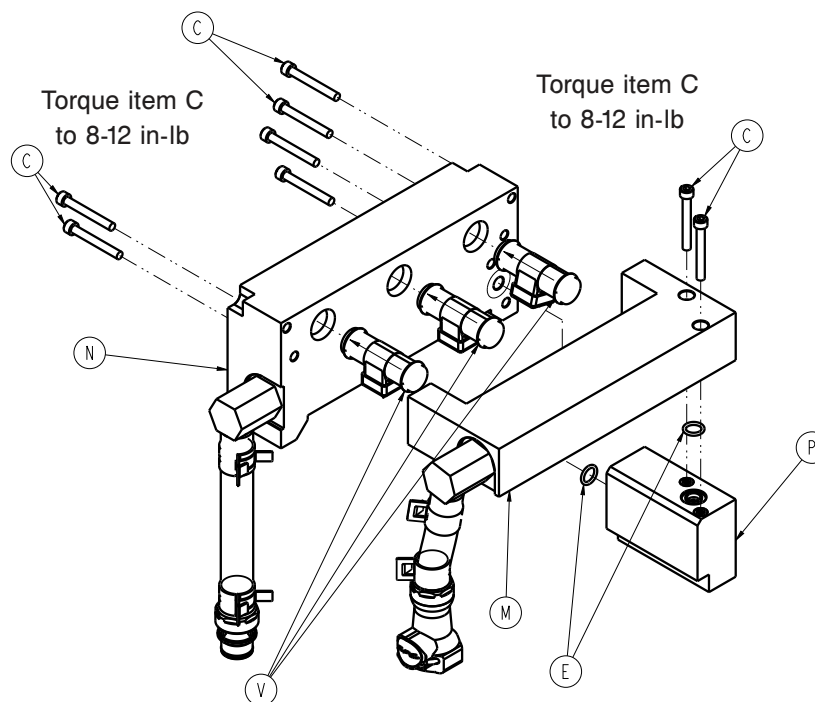

Figure 47: Manifolds
22. Using a 5/32" Allen remove and save the six screws (C) that secure the Return Manifold to the Bypass and Supply Manifolds. (Figure 47 on page 62)